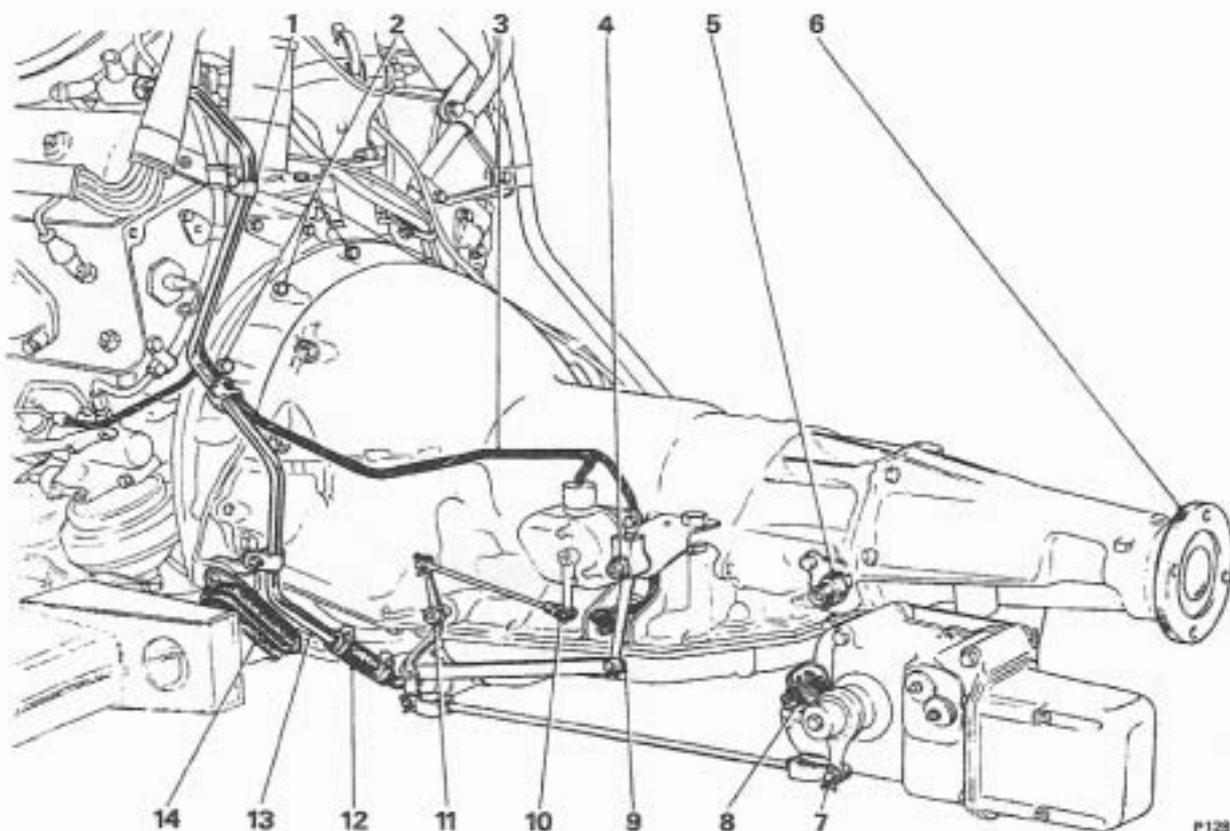

FIG. T165 TRANSMISSION DISCONNECTING POINTS—NEAR-SIDE (EARLY CARS)
19. Disconnect and remove the various operating rods and levers from the side of the transmission case (see Figs. T165 and T167).